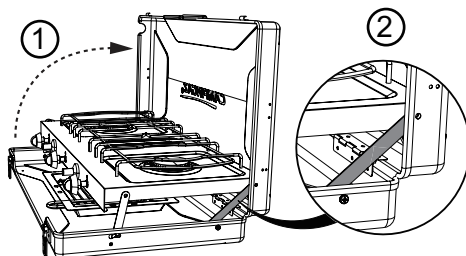

Fig.6
4. You can now discover and familiarise the important elements from your stove, the 3 control knobs, the 2 piezo buttons and the pan support. (Fig. 6)
Decide which burner to light first, turn counter clockwise the burner control knob to the full flow rate position and press the related piezo button until the burner lights. (Fig. 6)
Adjust burner flame as necessary by using burner control knob from reduced to full flow rate (Fig. 6)